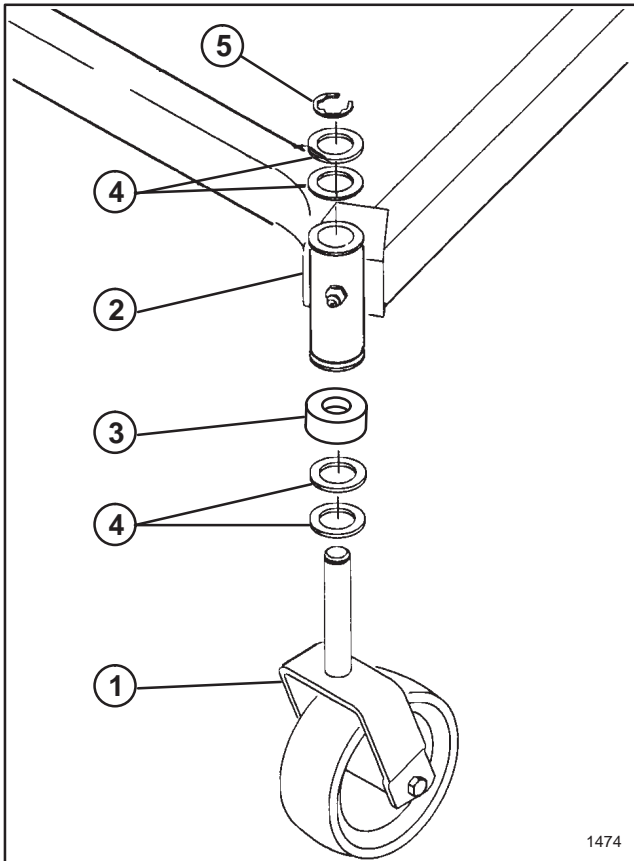

Figure 1
1. Place (2) thrust washers onto castor wheel shaft (Fig. 1).
2. If cutting unit is to be mounted on a traction unit with a serial number of 590001 & up, position a castor wheel spacer (Fig. 1) below carrier frame, when mounting castor wheels. When mounting cutting units on traction units with serial number prior to 5900001 place the spacer above carrier frame.
3. Insert shaft into carrier frame mounting tube. Install (2) thrust washers and secure with retaining ring (Fig. 1).